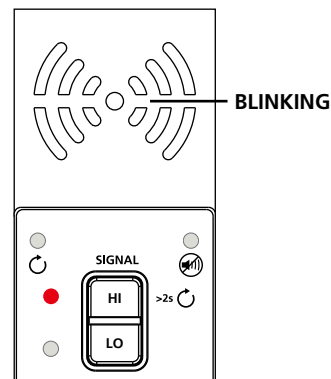

Figure 3.2b: Transmitter indicator
3. Select HIGH signal mode by pressing HI for most applications. The Transmitter will appear as shown in Figure 3.2b. The LED display will quickly begin to blink.